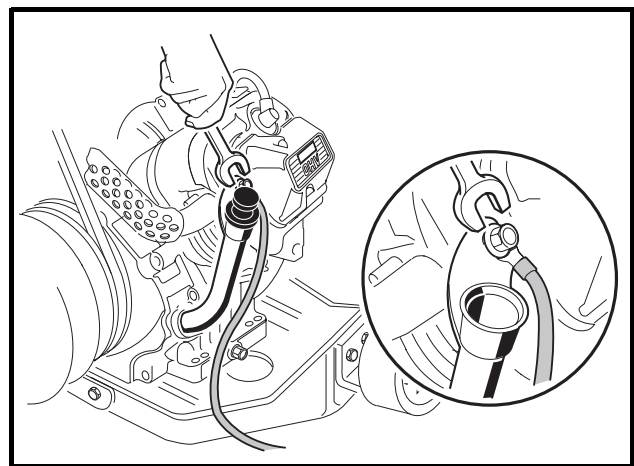

Figure 18-47 Engine Ground Wire
24. Attach the ground wire to the mounting screw on the oil filler tube mounting bracket and tighten to 50 in-lb (5.7 N·m) (**Figure 18-47, Page 18-17**).